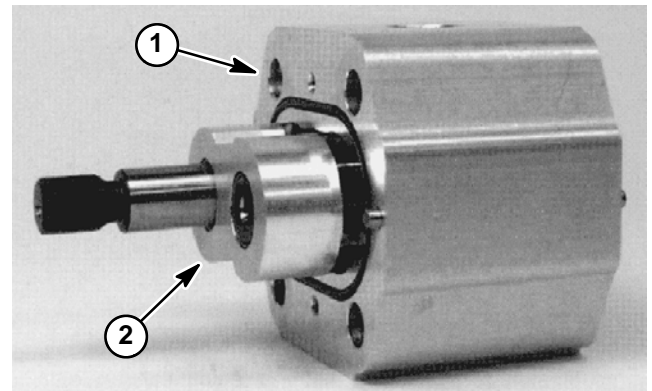

Figure 93
8. Place the motor on its side and push on the rear bearing block to remove the bearing block and gear set (Fig. 93).